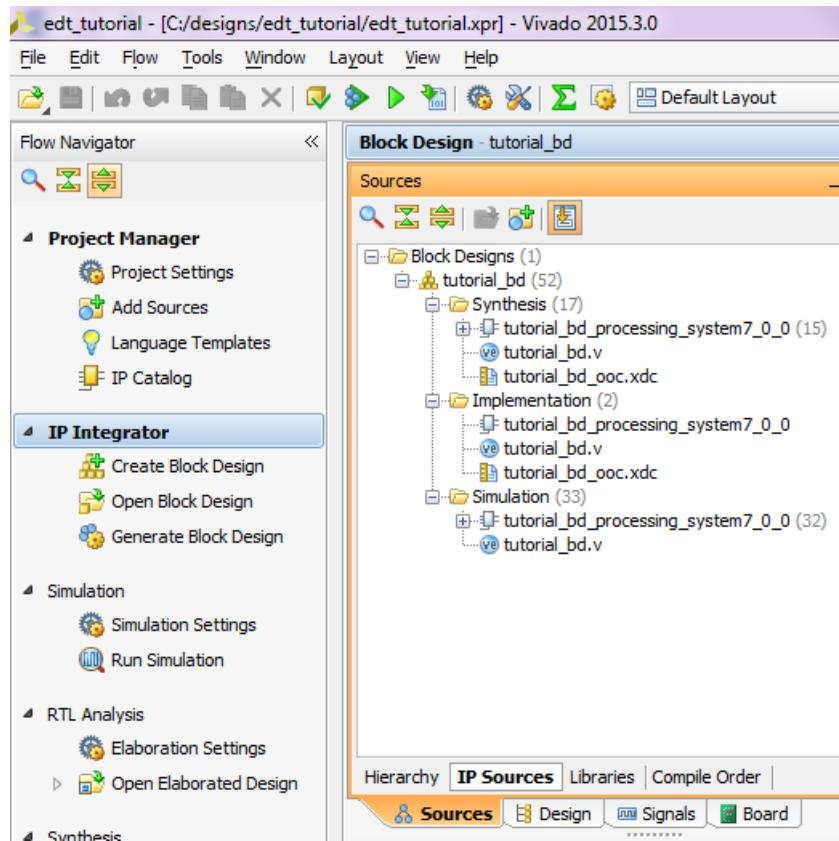

Figure 2-10: Outputs Generated Under IP Sources
15. In the Block Diagram Sources window, select the **IP Sources** tab. Here you can see the output products that you just generated (Figure 2-10).